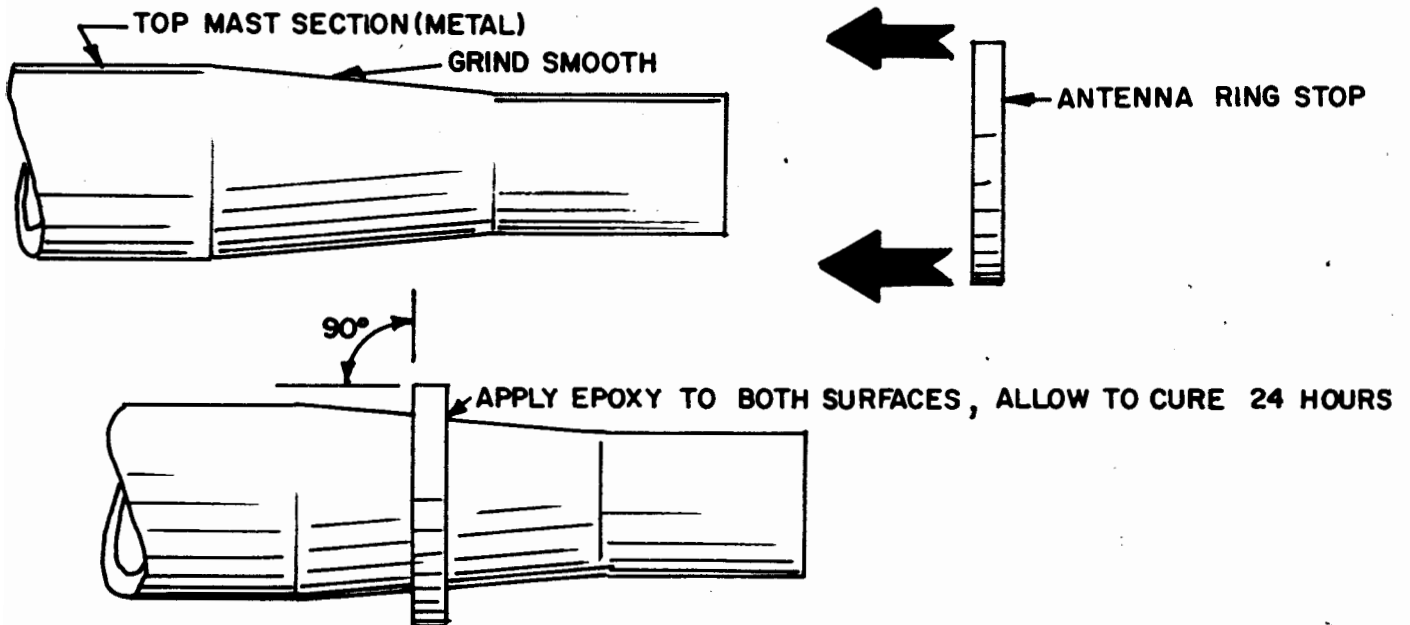

Figure 3-9 Replacing Antenna Ring Stop
(1) Grind off the remains of the antenna ring stop from the mast section. This should leave the mast section clean and smooth.
(2) Replace antenna ring stop by inserting over end and sliding down mast section as far as possible.
(3) Fasten in place by applying epoxy hardener and epoxy resin. Allow to set until mixture becomes hard. Refer to Figure 3-9.